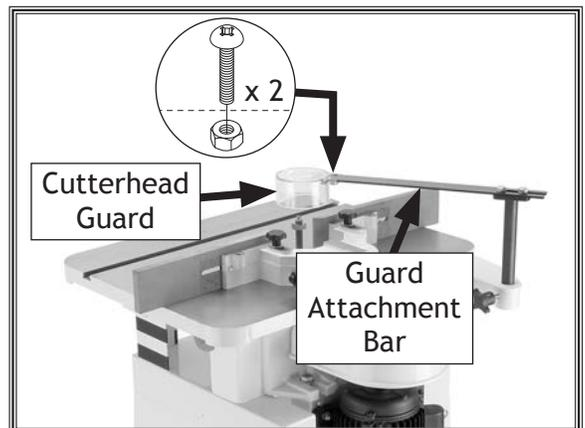

Figure 12. Cutterhead guard mounting hardware.
- Connect cutterhead guard to guard attachment bar with (2) M4-.7 x 10 Phillips head screws and M4-.7 hex nuts (see **Figure 12**).
- Position guard attachment bar and cutterhead guard over main fence housing (see **Figure 12**).